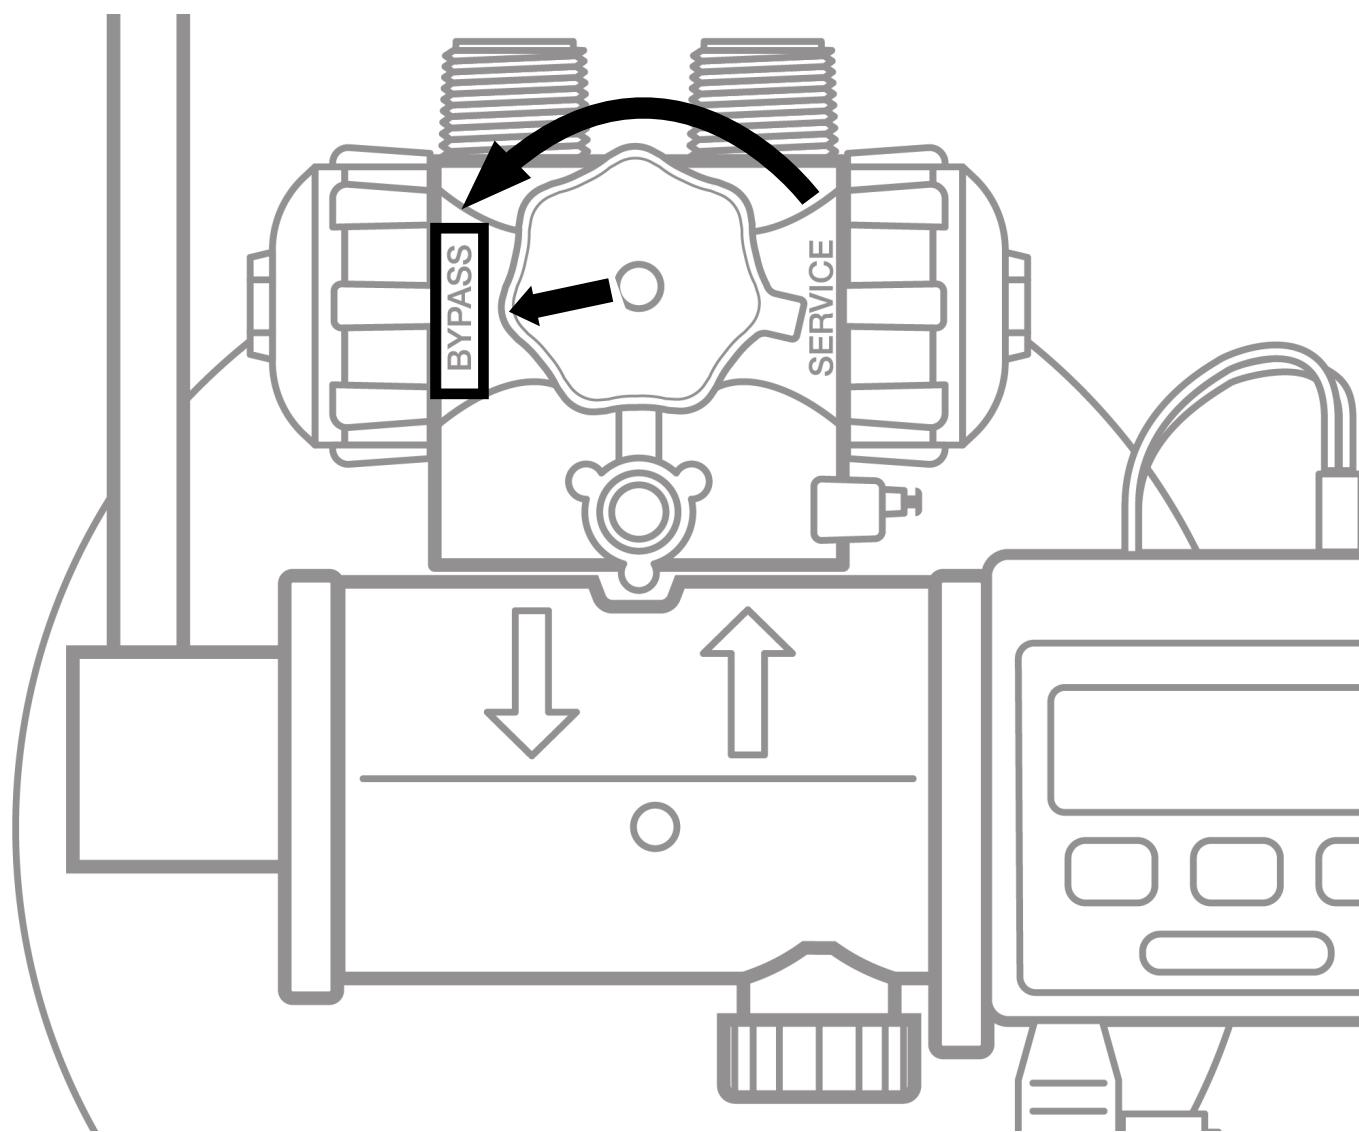

Figure 2: Connect Water Lines
4. Open a cold water tap and allow the appliance to flush for 20 minutes or until approximately 72 gallons (273 L) have passed through the appliance. This procedure is required to meet NSF requirements. Verify the flow rate on the controller, which indicates water flow. (See Figure 2)